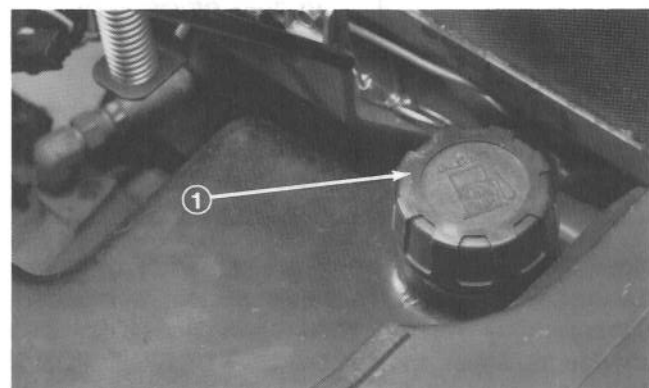

Figure 20
1. Tip seat forward and prop it with the support rod so it cannot fall accidentally. Using a clean rag, clean area around fuel tank cap (Fig. 20).